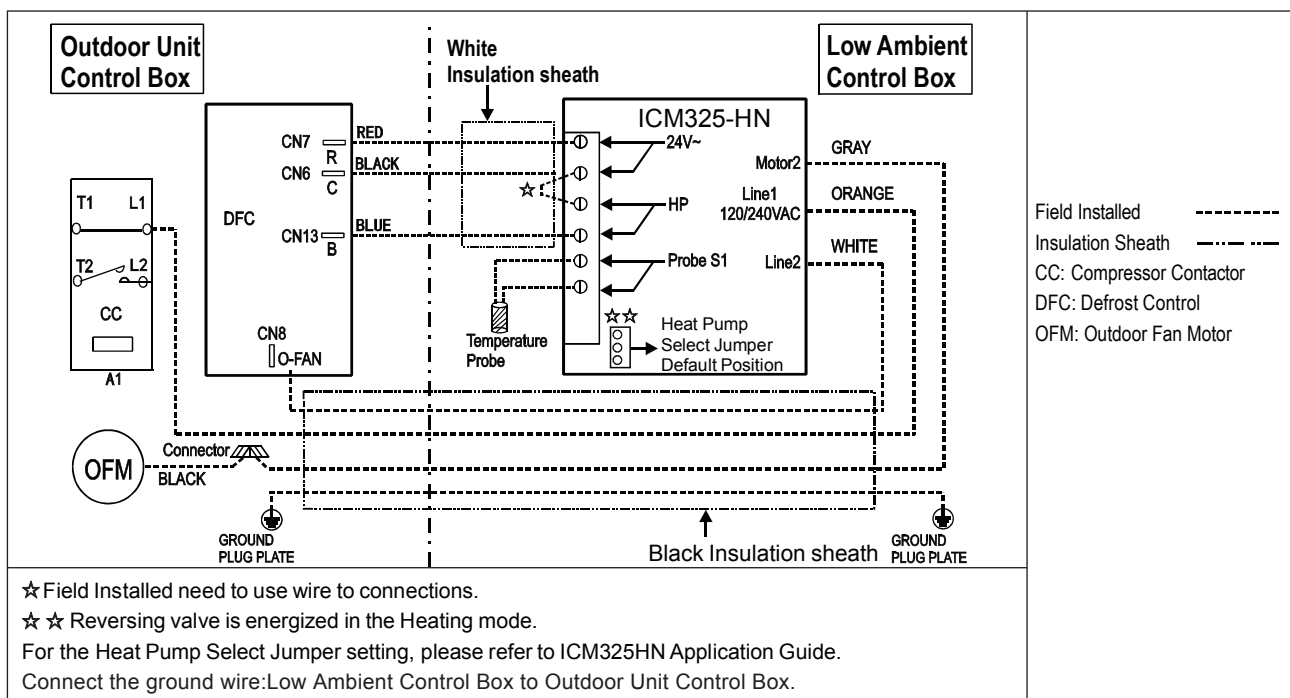

Figure 5
STEP 8- See wiring diagram for wiring connections (Figure 5).